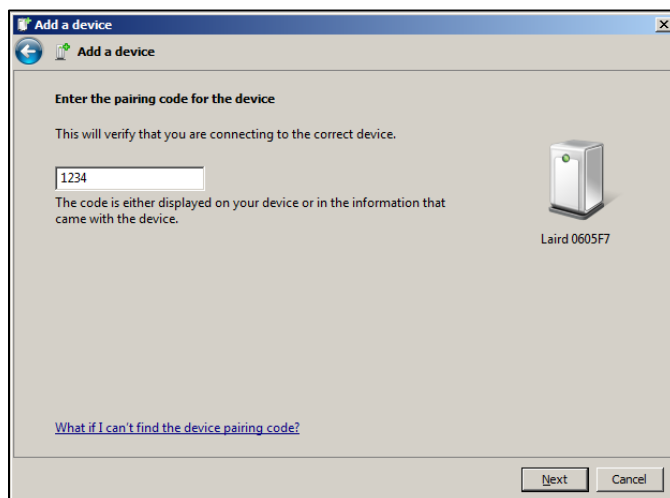

Figure 32: Enter pairing code
- b. Enter 1234 as the pairing code (Figure 32).